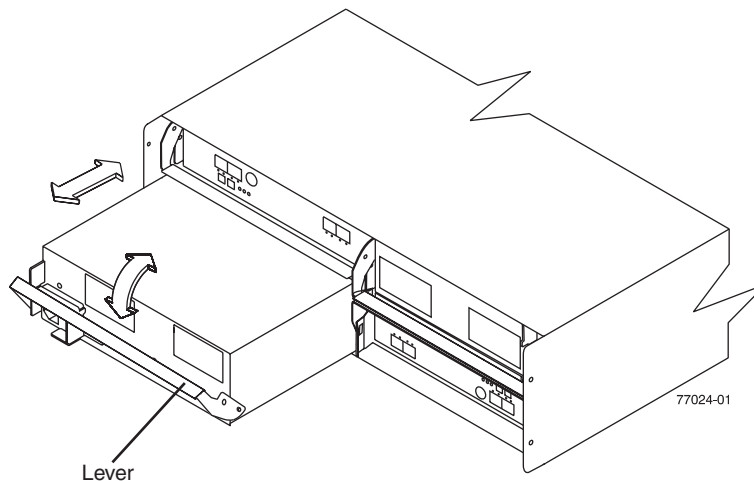

Figure 64. Replacing a power supply and fan unit
Use the following procedure to replace an ac power supply and fan unit. Figure 64 on page 118 illustrates removing and inserting a unit.
11. Slowly pull the lever away from the chassis to remove the power supply and fan unit, as shown in Figure 64 on page 118.
Use the following procedure to replace a dc power supply and fan unit. Figure 64 on page 118 illustrates removing and inserting a unit.